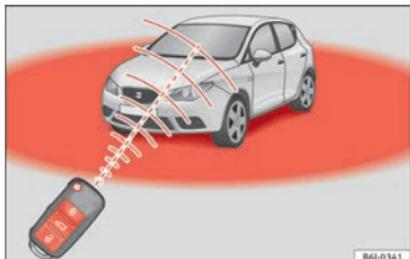

Fig. 132 Range of the radio frequency remote control.
• **The radio frequency remote control key functions only when you are within range » Fig. 132.**